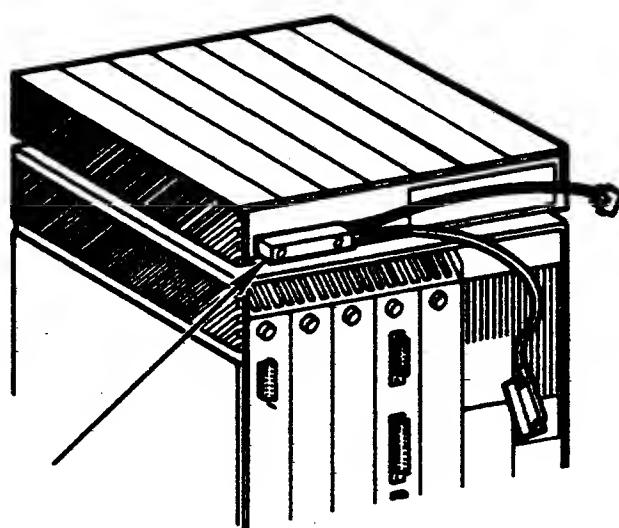

Figure 2-20. Connecting Cable to Floppy Disk Drive
- 3. Connect the appropriate end of floppy disk drive cable to the floppy disk drive, as shown in Figure 2-20 (remove tie-wrap if necessary).**